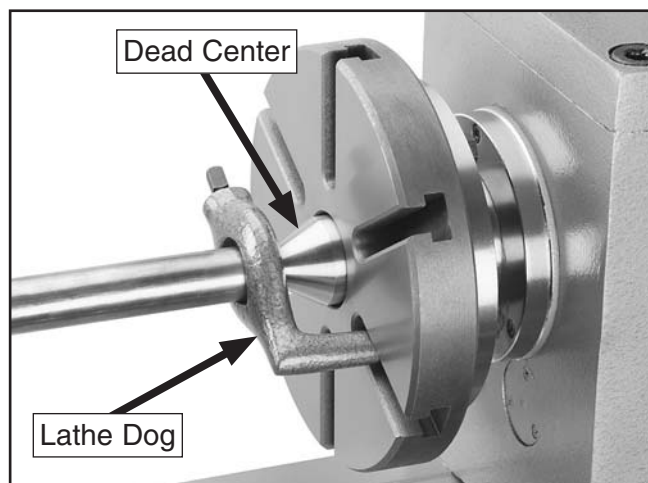

Figure 38. Stock supported between centers using a chuck and lathe dog on the spindle.
Dead centers are also installed in the lathe spindle and used with the chuck or faceplate and a lathe dog (see **Figure 38**).
3. Install a lathe dog on the workpiece, then mount the workpiece between the spindle and tailstock centers with the lathe dog inserted into the chuck or faceplate (see **Figure 38**).